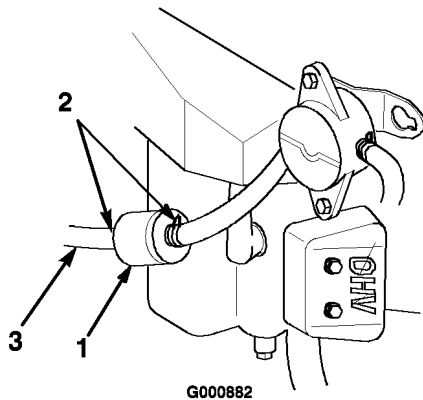

Figure 30
5. Loosen the hose clamp at the fuel filter and slide it up the fuel line away from the fuel filter (Figure 30).
6. Pull the fuel line off of the fuel filter (Figure 30).
4. Squeeze the ends of the hose clamps together and slide them away from the filter (Figure 30).
6. Install a new filter and move the hose clamps close to the filter (Figure 30).